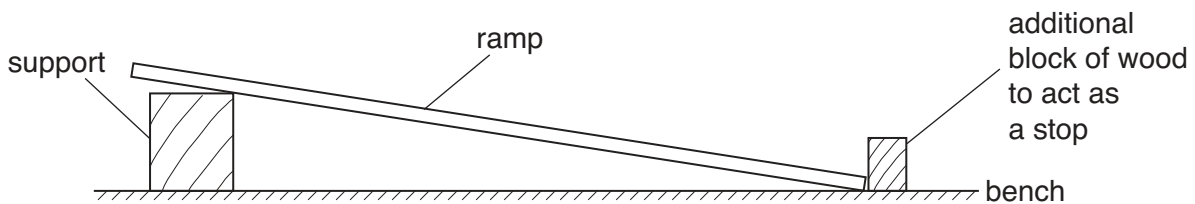

Fig. 2.1
2. The height of the block of wood or other support (e.g. stand and clamps) should be chosen such that the trolley takes between 1.5 s and 2.5 s to travel 0.70 m down the ramp. When the height of the support has been chosen, the Supervisor should set up the apparatus as shown in Fig. 2.1.